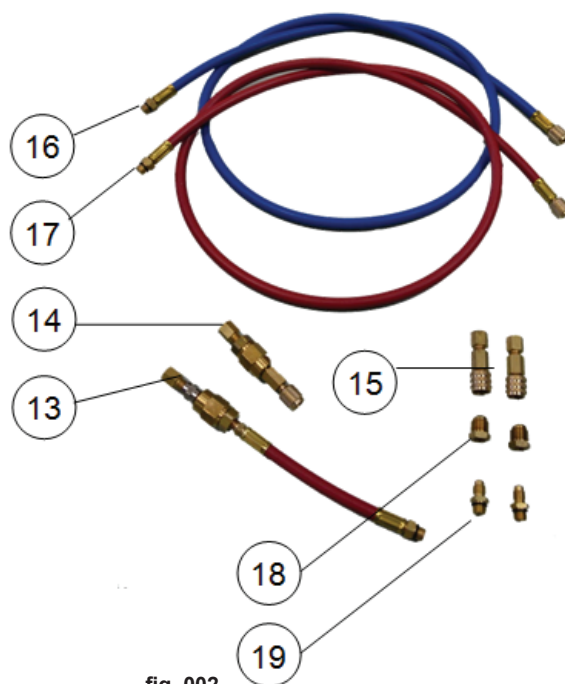
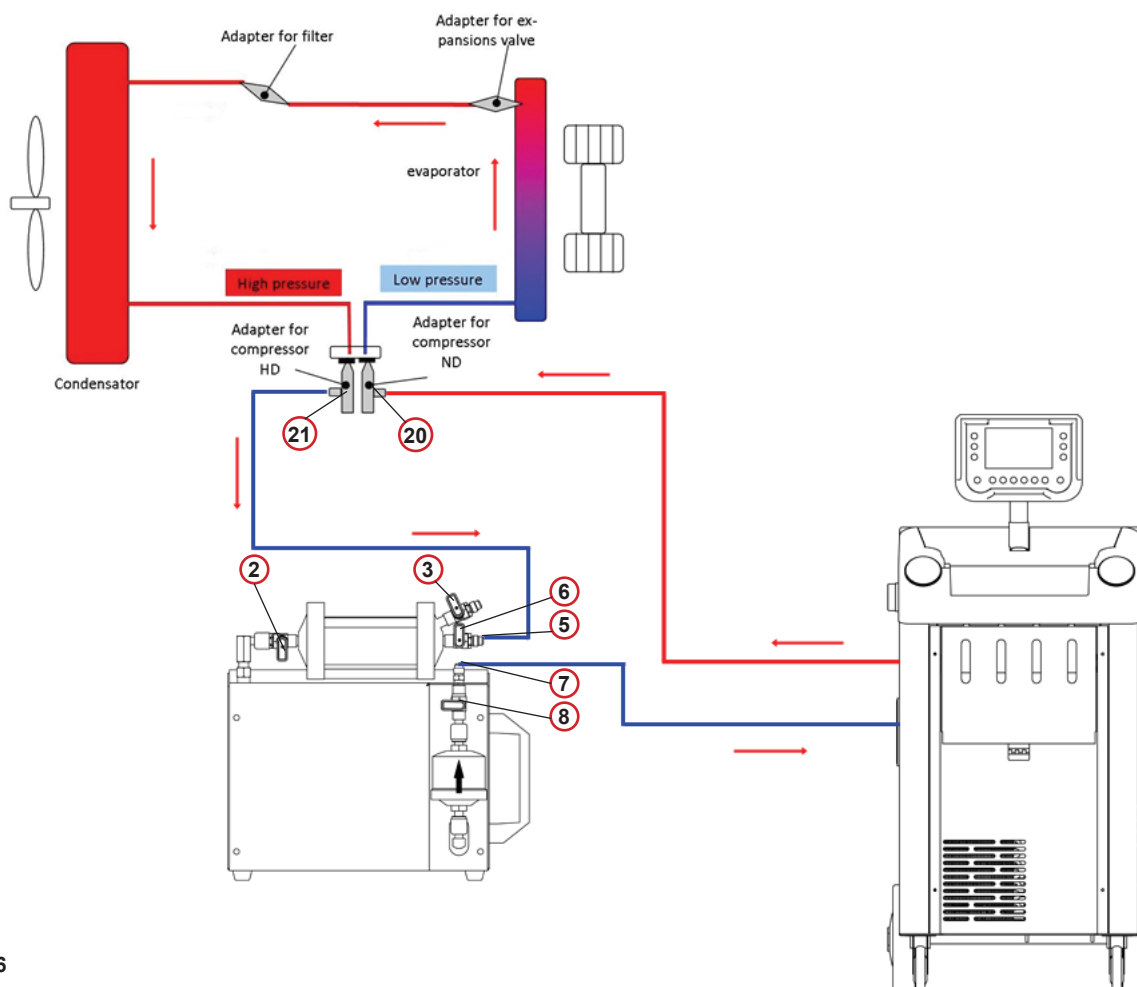

fig. 002
fig. 006
1. Connect the **red service hose (high pressure)** of the A/C service unit to the manufacturer-specific adapter of the **blue low-pressure side** of the A/C system compressor (20 fig. 006).
2. Connect the **blue service hose (low pressure)** of the A/C service unit to the filter port (7 fig. 006) of the flushing kit.
3. Connect the blue hose from the supplied flushing kit (16 fig. 002) to the connection (5).
4. Connect the other end of the **blue hose** from the flushing kit to the manufacturer-specific adapter of the **red high-pressure side** of the A/C system compressor (21).
5. Open the valves (2, 6) and (8) and make sure the valve (3 fig. 006) is closed.
10. At the end of the flushing operation you can remove and dispose of possible oil or solid particle residues with the aid of the discharge valve (3) from the inspector sight glass.
2. Screw the adapter **13** from the supplied flushing kit *fig. 002* on the red service hose (high pressure) and then screw the high-pressure quick-release coupling on the adapter **13** (or 3/8" SAE adapter).
5. Connect the adapter **14** from the supplied flushing kit *fig. 002* to the blue service hose (low pressure) of the A/C service unit.
7. Connect the blue hose **16** from the supplied flushing kit *fig. 002* to the connection **5** of flushing kit.
- At the end of the flushing operation you can drain and dispose of possible oil or solid particle residues with the aid of the discharge valve ③ from the inspector sight glass.